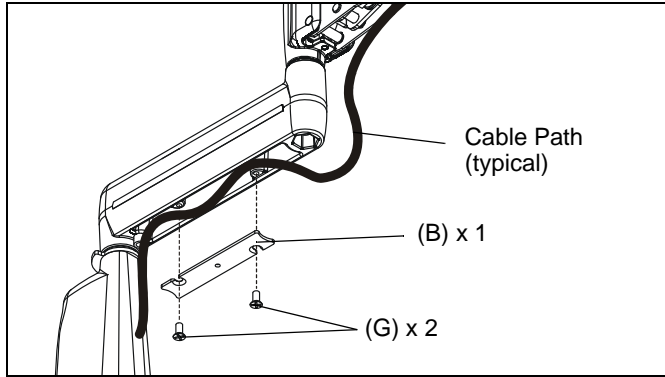

Figure 8
5. Carefully insert cables in cavity located in lower portion of mount arm. (See Figure 8)
6. Using Phillips screwdriver, install cover (B) with two #8-32 x 3/8" Phillips flat screws (G). (See Figure 8)